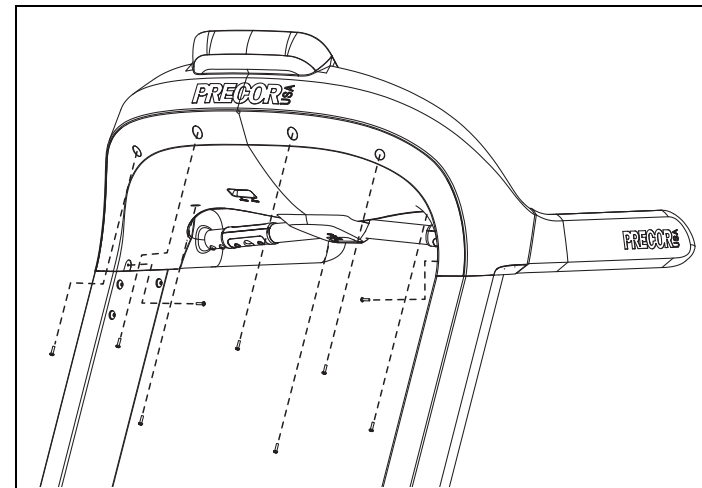

Figure 10: Remove display console back cover screws
3. Use a Phillips-head screwdriver to remove the nine screws that secure the display console back cover. See Figure 10. Set the fasteners aside.